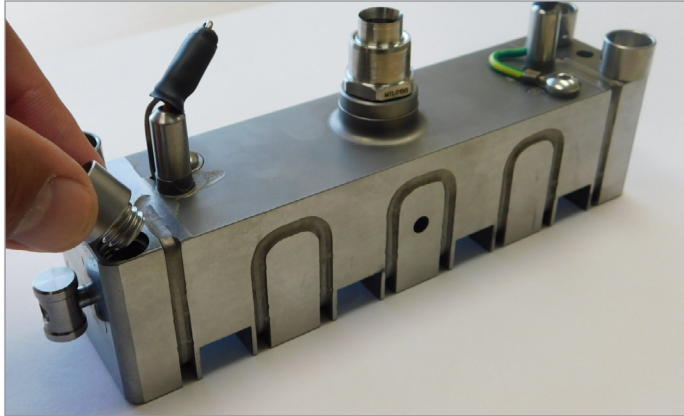

Figure 5-95 Install bushings
3. Install the four support bushings into the bottom of the Melt-Cube manifold and hand tighten. See Figure 5-95.